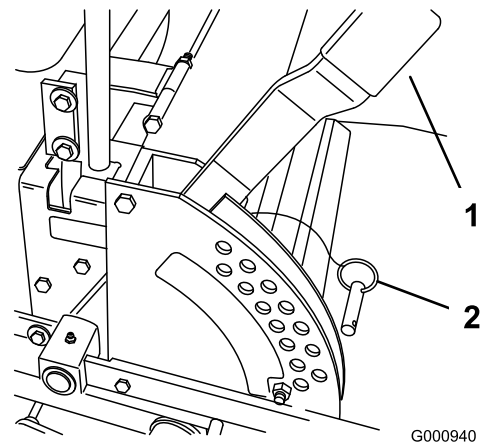

Figure 16
1. Raise the height-of-cut lever to the transport position (also the 5 inch (127 mm) cutting height position) (Figure 16).
2. To adjust, remove the clevis pin from the height-of-cut bracket (Figure 16).
3. Select a hole in the height-of-cut bracket corresponding to the height-of-cut desired and, insert the clevis pin (Figure 16).